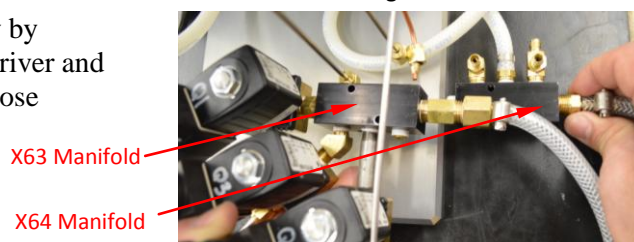

Figure 6
- c. Slide the new X64 assembly under the X63 manifold. See Figure 6.